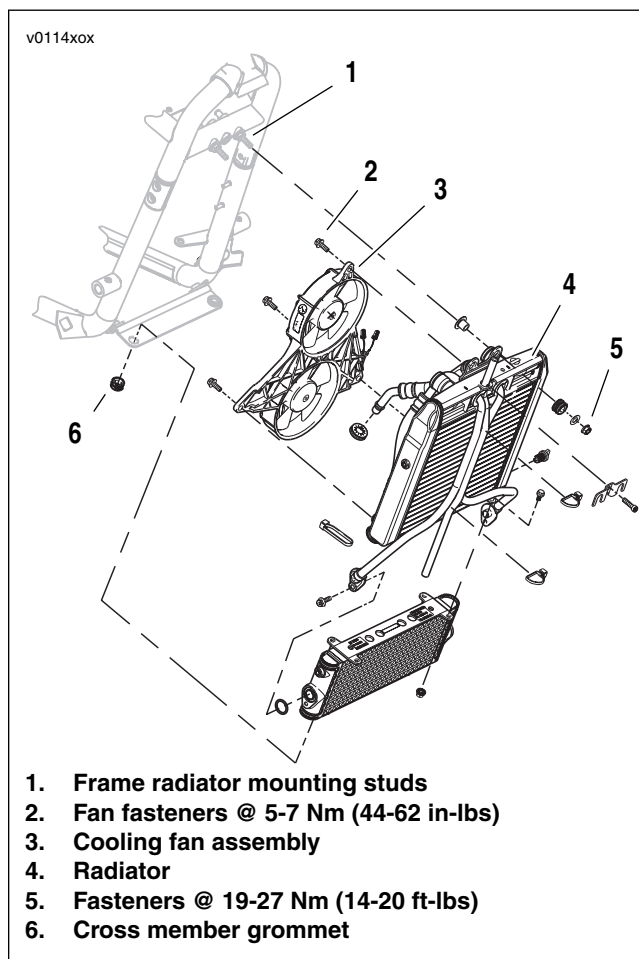

Figure 8-71. Radiator Mounting (typical) (VRSCA shown)
2. See Figure 8-71. Thread in and tighten fan fasteners (1, 2) to 5-7 Nm (44-62 **in-lbs**).